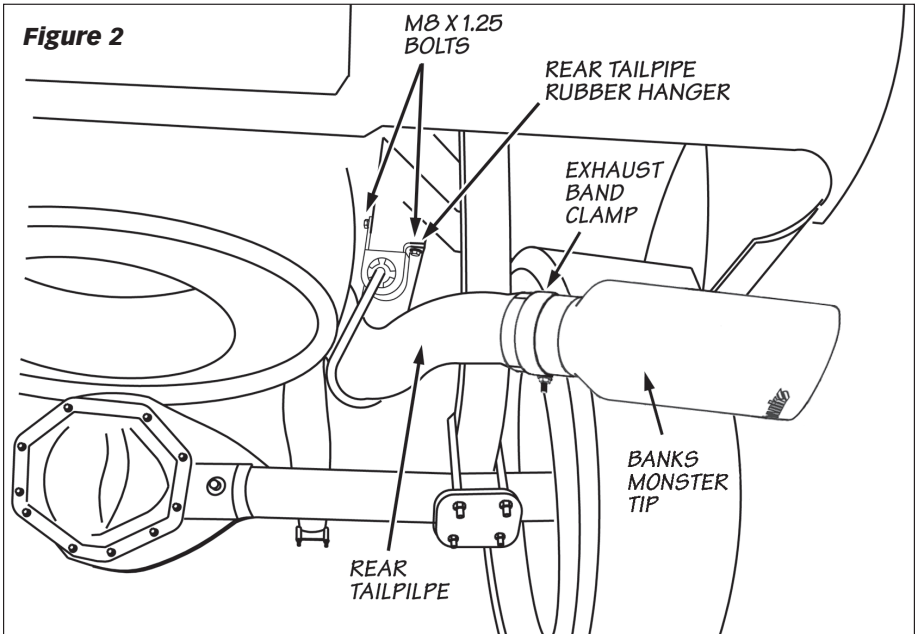

Figure 3
4. Loosen the factory band clamp at the front of the muffler. Using spray lubricant, lube the front and rear muffler hanger pins. Remove the muffler and tailpipe assembly from the vehicle (see **Figure 3**).